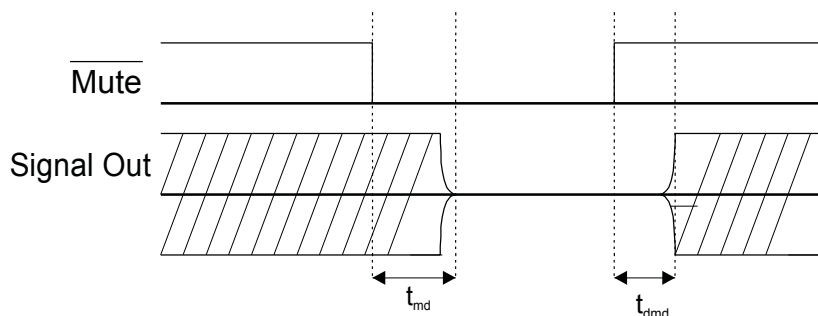
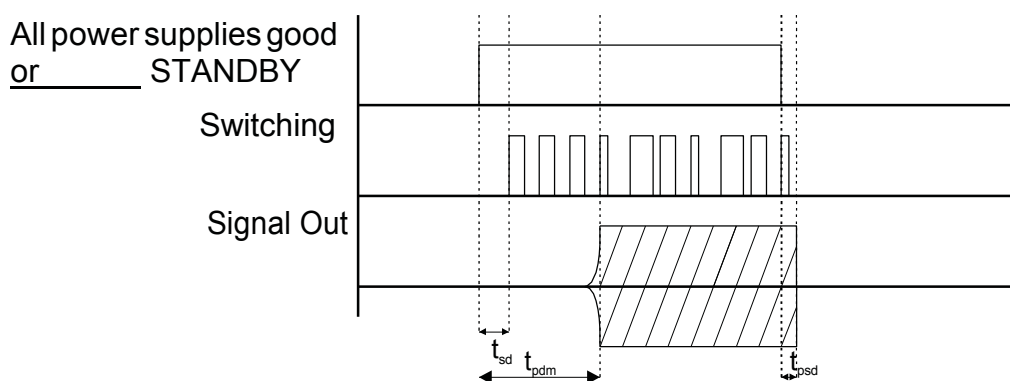

Figure 12: Mute and de-mute timing definitions.
Figure 13: Supply startup and shut down timing definitions.
3) For details see Figure 12 and Figure 13.